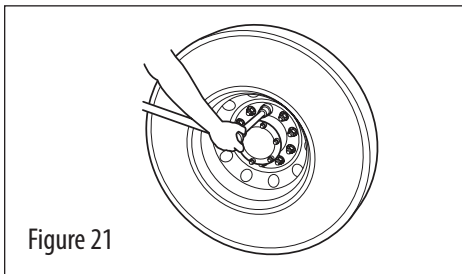
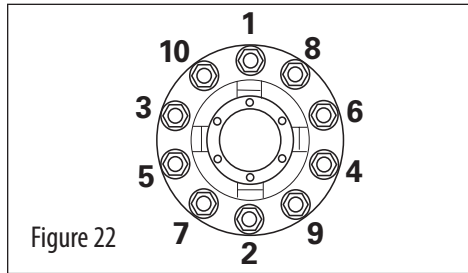

Figure 21
Figure 22
**Always snug the top nut first to fully seat the brake drum on the drum pilot and against the hub face. See the adjacent diagram for bolt tightening sequence, and tighten in order from 1 through 8 or 10, depending on the bolt pattern (see Figure 21 and Figure 22).**
7. Snug the top nut first. Apply 50 ft.-lbs. torque to draw the brake drum up fully against the hub (see Figure 21).
8. Install the remaining wheel nuts and using the sequence as shown, torque all the nuts to 50 ft.-lbs., then retorque to 450-500 ft.-lbs. (see Figure 22 and 23). The last nut rotation must be with a calibrated torquing device.